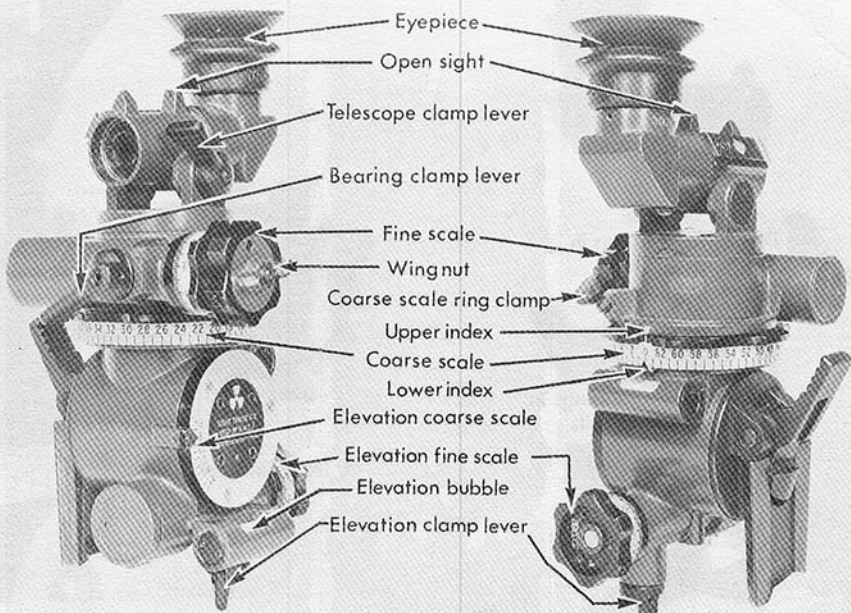

Fig 13.—The dial sight (C2 sight unit)
The Dial Sight (see Fig 13).
a. On the coarse scale, the scale ring is always to be set with 'O' in line with the white upper index before use (see Fig 13). To do this, loosen the screw type clamp if necessary and rotate the scale ring; tighten the clamp. The lower index indicates the direction reading in hundreds of mils. The scale is numbered every 200 mils.